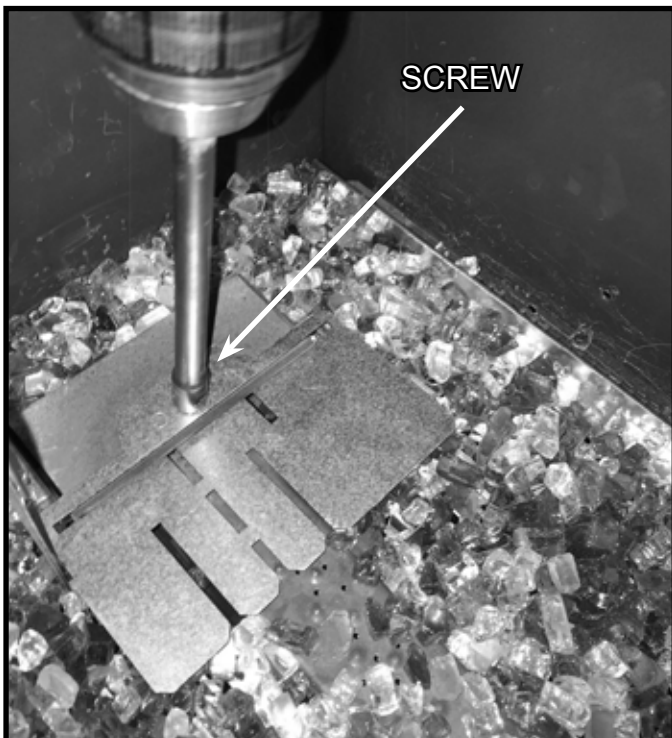

Figure 3. Remove Media Placement Jig
5. Remove the screw, noted in Figure 3, from the media placement jig and carefully lift the jig out of the appliance. **DO NOT** allow any pieces of media to fall into the area in front of the pilot.